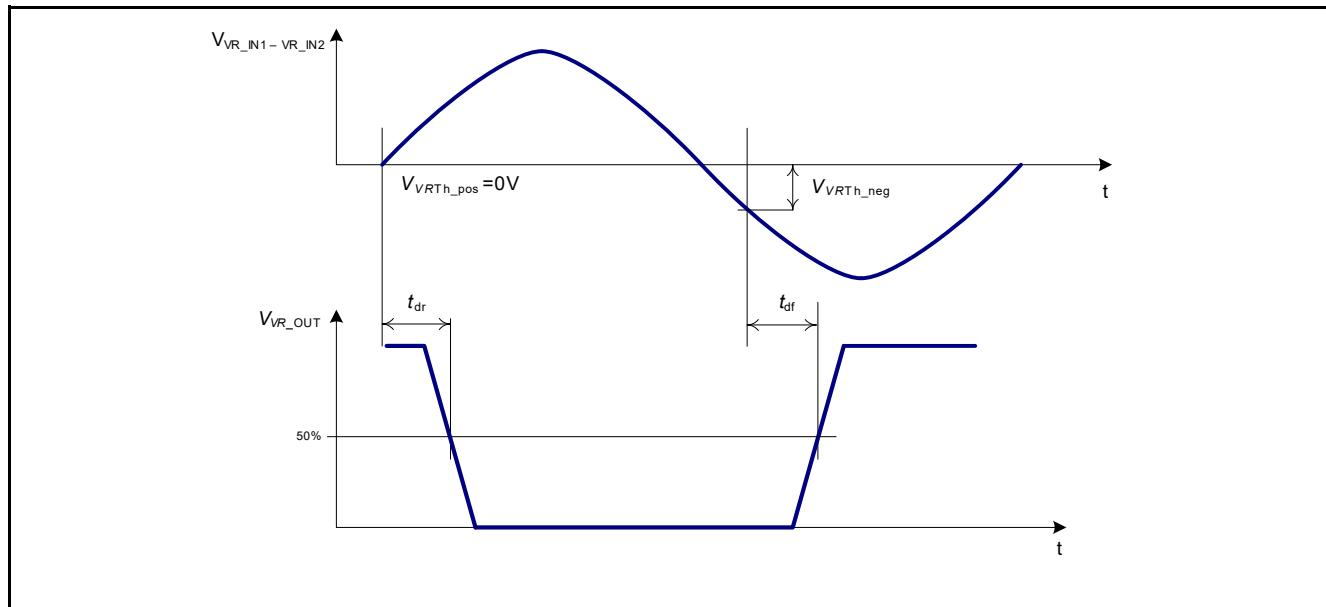

Figure 12 Timing characteristics of the VR sensor interface
The variable reluctance (VR) sensor interface converts an output signal of a VR sensor into a logic level signal suited for μ C 5 V input ports. The voltage difference between the two input pins, **VR_IN1** and **VR_IN2**, which are connected to the two output pins of the VR sensor, is detected and the output pin **VR_OUT** is switched depending on the sign of the voltage difference (see **Figure 12**). The amplitude of the VR sensor signal is limited by an internal clamping circuit to avoid damage of the device due to over voltage caused by the VR sensor signal.